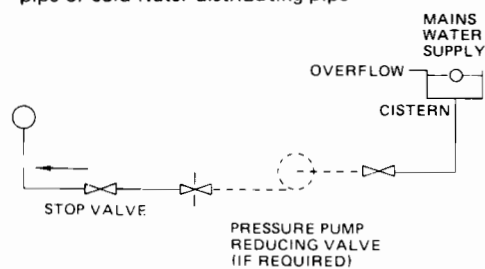

FIG 7. FULLY PUMPED SEALED SYSTEM
- where access to a make-up vessel would be difficult by using the mains top up method or a remote automatic pressurisation and make-up unit as illustrated in FIG. 7 METHODS 1 and 2.
The system shall be fitted with a filling point at low level which incorporates a stop valve to BS1010 and a double check valve (approved by the National Water Council) to be fitted in this order from the system mains, Refer to FIG. 7. Method 1.